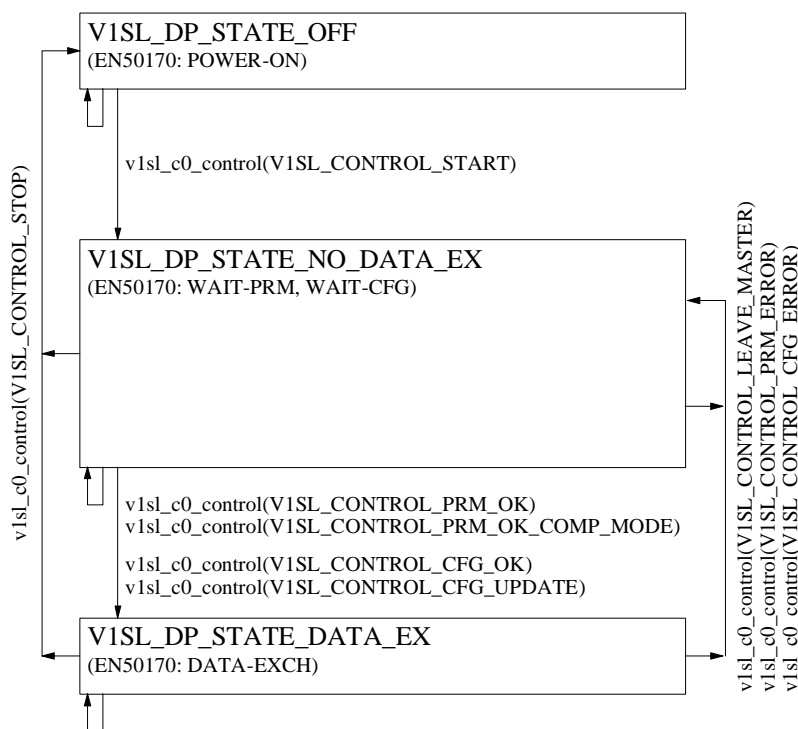

Figure 6: Slave State Transitions, and Influencing User Actions
The state machine that handles the C0 firmware visible to the user is shown in Figure 6.
**Note:** Not only the user, but also the bus can influence the DP state. This is not shown in Figure 6.